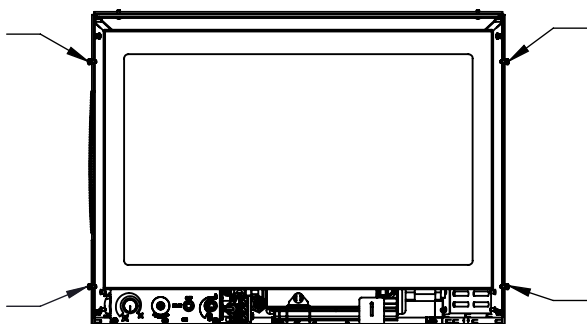

Figure 46: Bushing/Screw Installation Locations.
3. In the case of the 4-Sided Panel, screw the surround onto the unit as shown in Figures 46 and 47.